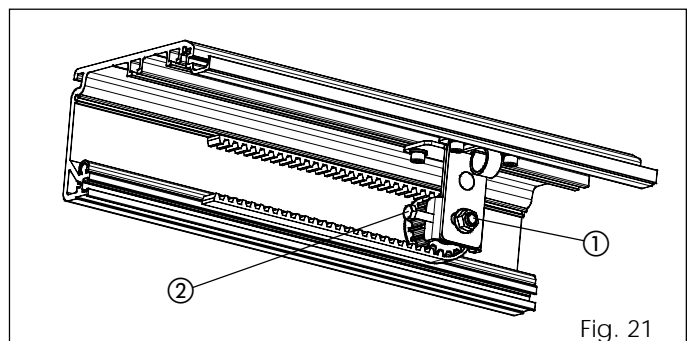

Fig. 21
- Loosen the nut (fig. 21 ref. ①).
- Screw the bolt of fig. 21 ref. ② to exert tension on the belt or unscrew it to slacken the belt.
- When you have adjusted tension, tighten the nut (fig. 21 ref. ①).